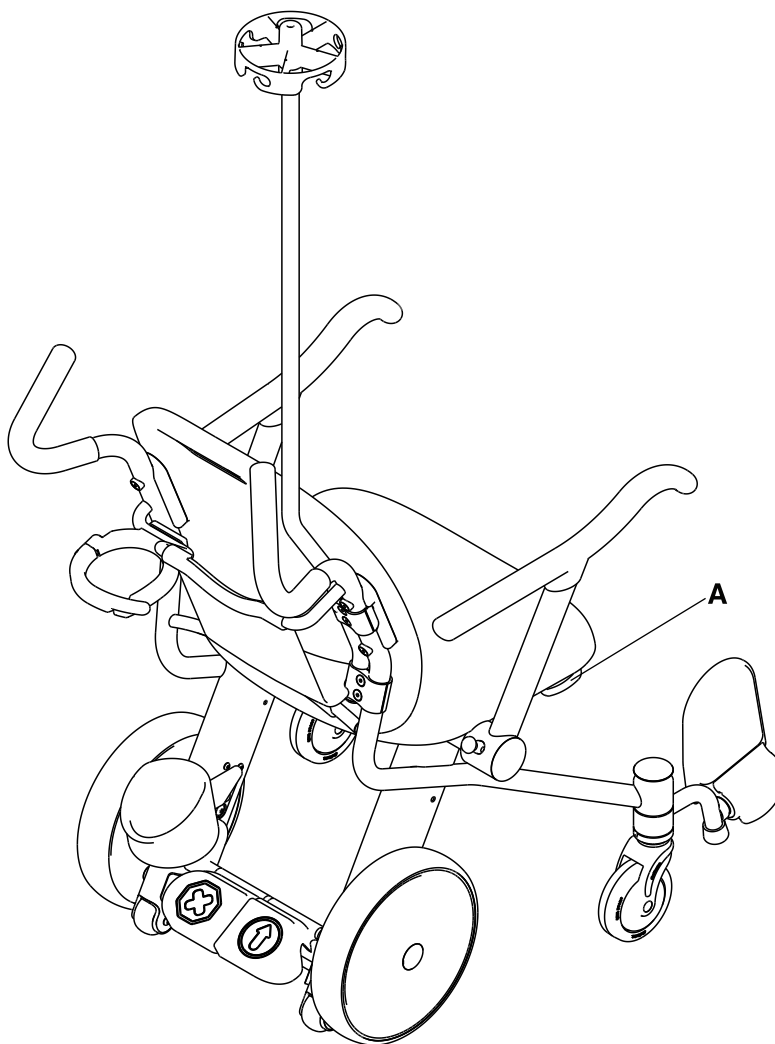

Figure 14: Foley bag hook location
To secure a foley bag to the optional foley bag hook, place the hook of the foley bag on the optional foley bag hook (A) (Figure 14 on page 27). Make sure that you have securely attached the foley bag.